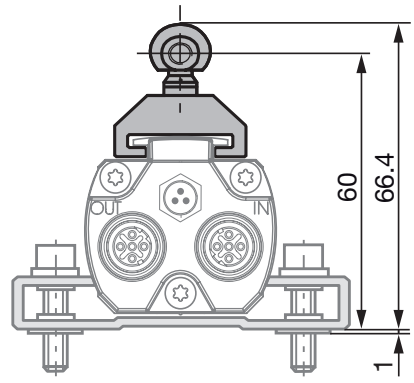
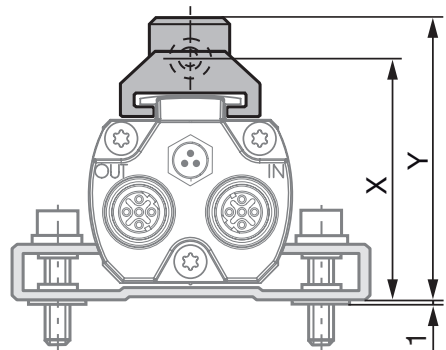
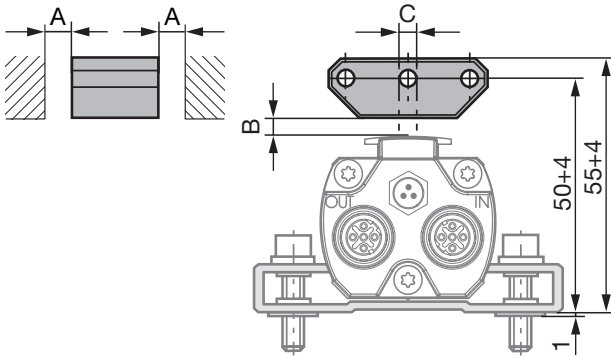
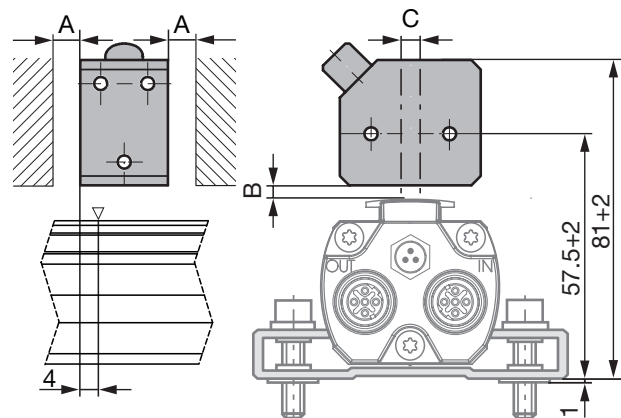

Fig. 4-1: Dimensions and spacing with magnet BTL5-F-2814-1S
Fig. 4-3: Dimensions and spacing with magnet BTL5-M/N-2814-1S
Fig. 4-4: Dimensions and spacing with magnet BTL5-P-3800-2
Fig. 4-8: Dimensions and spacing with BTL5-P-4500-1 electromagnet (24 V/100 mA)
i The BTL in profile housing is suitable both for floating, i.e. non-contacting magnets (see Fig. 4-4 to Fig. 4-8) and for captive magnets (see Fig. 4-1 to Fig. 4-3).
- Distance A between the magnet and parts made of magnetizable material must be kept to at least 10 mm (see Fig. 4-4 to Fig. 4-8).
- For distance B between the magnet and the BTL and for the center offset C (see Fig. 4-4 to Fig. 4-8) the following values must be maintained:
The measuring range is offset by 4 mm towards the BTL plug (see Fig. 4-8).